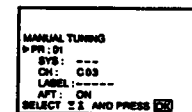

Fig. 12
- 5 Press Δ or ∇ until "..." appears in the SYS position. (See Fig. 12.)